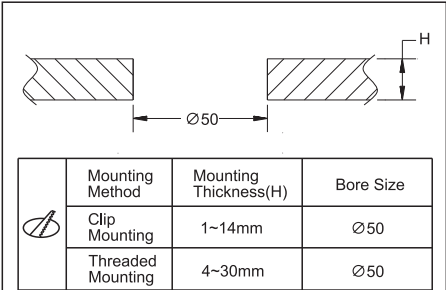

Figure 1
- 1. Fixture Installation Thickness & Cut-out Dimensions.(Figure1)